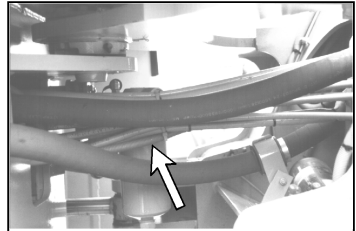

Figure 12
5. Route all cables through the conduit provided in the kit. Cable tie the conduit at 300mm (12") spacing following where possible existing pipe work or cabling. You must pass the conduit through the chassis pivot point on articulated loaders (fig. 12). Do not secure the cables to the vehicle loom.